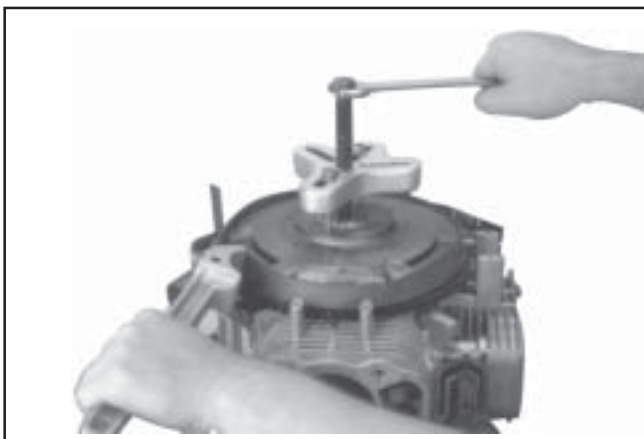

Figure 9-52. Removing Flywheel with a Puller.
3. Use a puller to remove the flywheel from the crankshaft. See Figure 9-52.